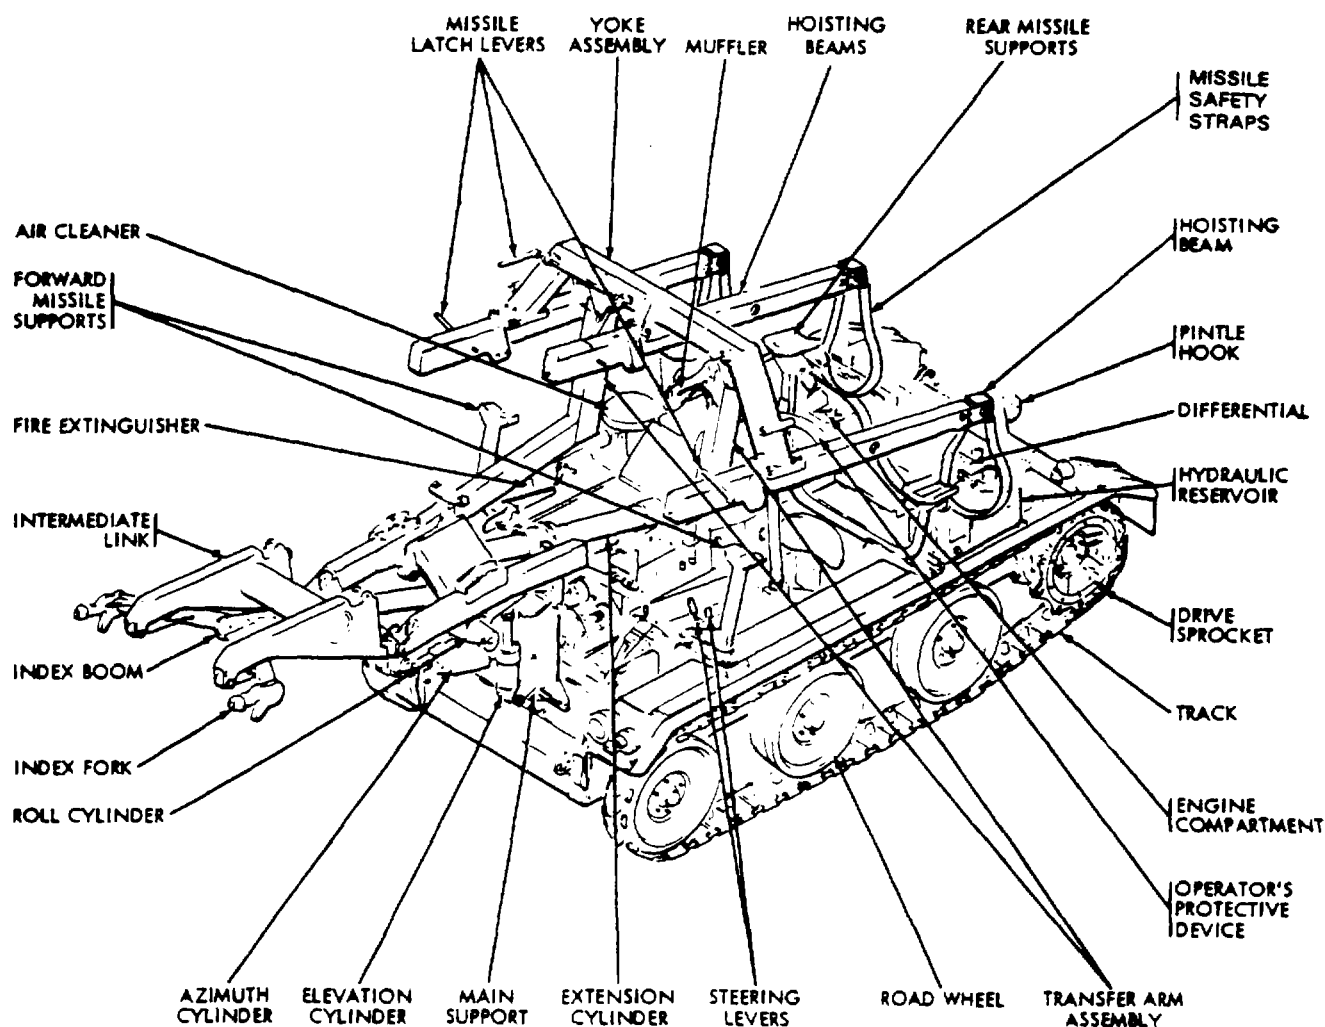

Figure 1-1. Loader-Transporter. Model XM501E3. Gasoline Engine.
a. General. The loader (Figs. 1-1 and 1-2) is a self-propelled, full tracked vehicle used in and around the HAWK missile battery. It is designed for transporting one, two, or three missiles between pallet and launcher. Automatic line-up features on the superstructure enable the operator to place the missiles on the launcher in a fire-ready position, on slopes up to 10 degrees.